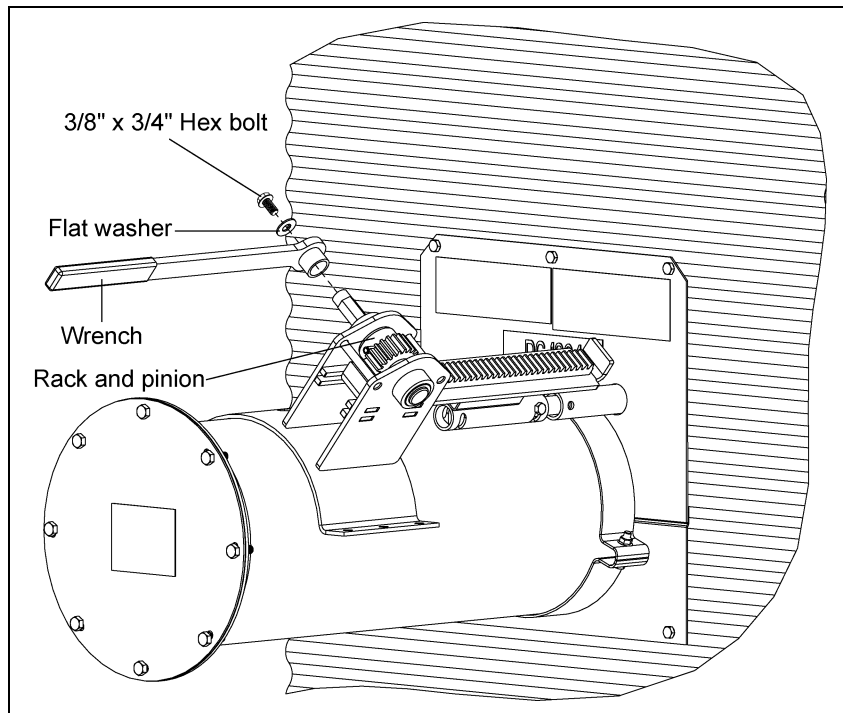

Figure 40 8" and 10" Systems
- Slide wrench over shaft on rack and pinion, making sure the collar faces the gears. Fasten down with 3/8" flat washer and 3/8" x 3/4" hex bolt. (See Figure 40.)